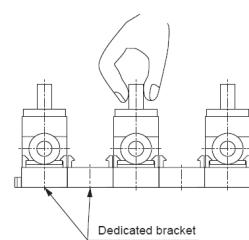

Figure2 Manifold piping with the lever turned around by hand
14. Manifold being piped with the lever turned around by hand, please install the valve in one space over-after another. That makes the manual operation easier.(Figure 2)